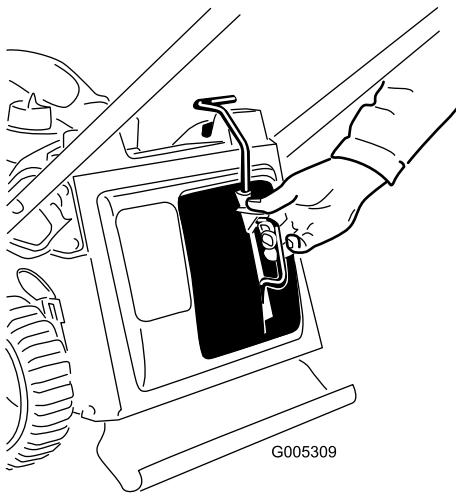

**Figure 20**
2. Turn the fuel valve lever to the On position (Figure 20).